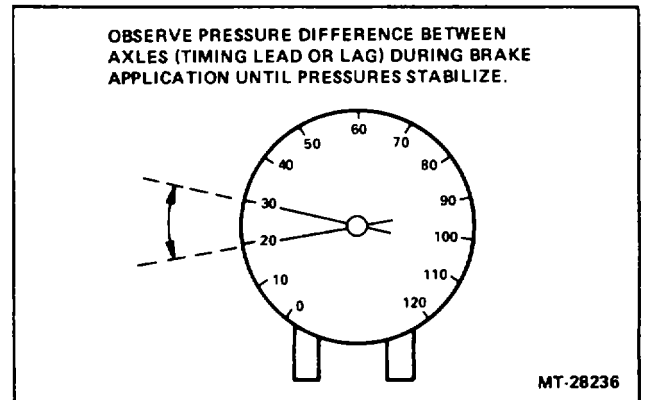

Figure 29 - Gauge Reading - Pressure
4. Check pressure build-up rate as follows: While observing the duplex gauge, apply the service brake control moderately to at least 207 kPa (30 psi). The moderate rate of application should simulate that used in day-to-day braking under normal operating conditions. Observe and record the pressure difference between the hands on the test gauge dial (Figure 29). The dual pressure readings give an indication of the timing difference between the axles. If the pressure build-up in the trailer brakes leads the tractor brakes, the gauge reading should be recorded as a positive (+) number. If the pressure build-up lags, the reading should be recorded as a negative (-) number. Release the service brakes. Repeat this step at least three times and record the average of the total readings.